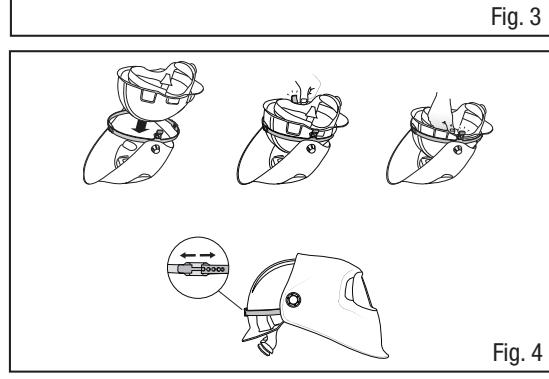

Fig. 4
- Attach the 3M™ Speedglas™ 100 assembly to the hardhat as shown in Fig. 4 and adjust the hardhat adapter "pin lock" for a tight fit around the hardhat for a completed assembly.